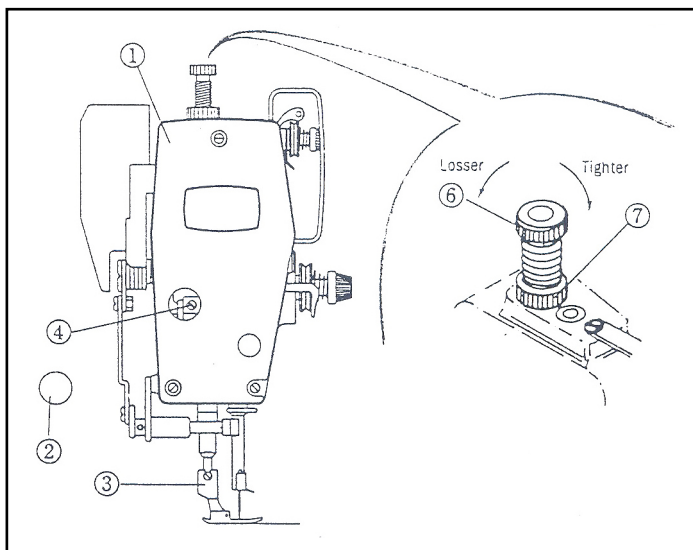

Figure 7.10
- A. As shown in Fig. 7.10, remove the rubber plug '2' from the cover plate '1.' With the needle in the 'up' position and the presser foot '3' also in the 'up' position make sure the needle point is not showing below the presser foot. If the needle point is visible then release the presser bar holder screw '4' and adjust the holder until the foot covers the needle. Once the adjustment has been carried out check the presser foot will both clamp the jig in the 'down' position and also allow the jig to be loaded in the 'up' position.
- B. Adjustment of the presser foot pressure. As shown in Fig. 7.10 rotating the adjusting screw '6' clockwise increases the foot pressure. After adjustment use nut '7' to lock adjusting screw '6' in position.